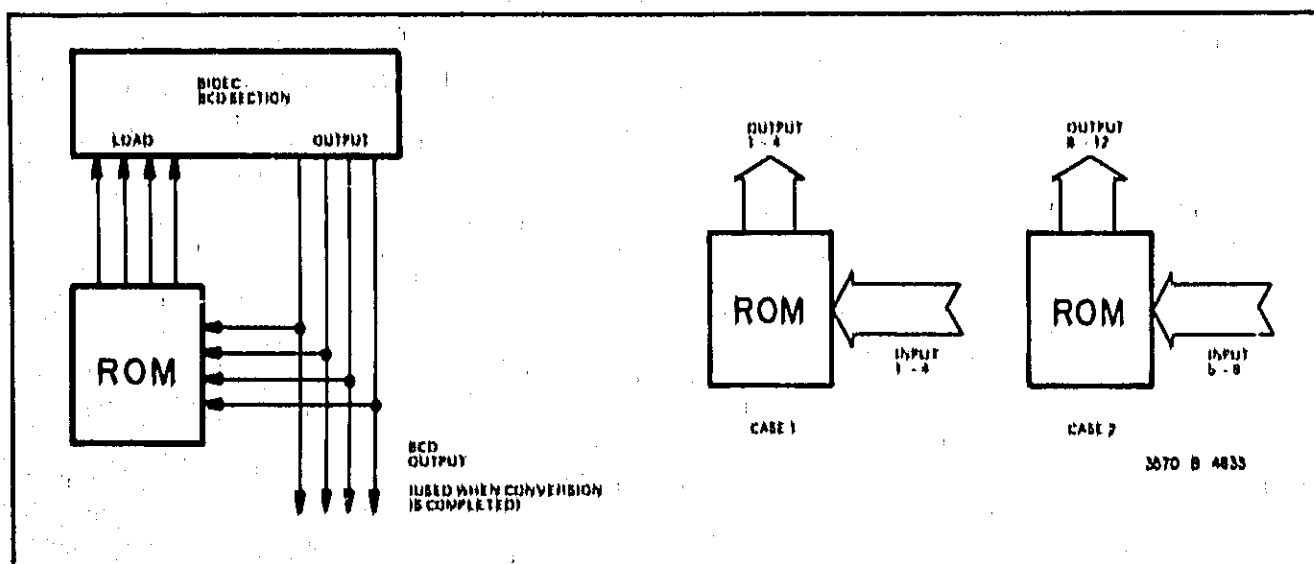

Figure 4-24, BIDEc Conversion ROM's.
b. The BIDECE Register is constructed so that the add operation can take place as bits are right shifted into the Register. The add three operation in the BIDECE Register is performed by ROM's. The four binary bits in each BCD section are always available as a ROM input address. The ROM has four outputs which are used as parallel inputs to the same BCD section of the BIDECE Register. The ROM outputs will be the same as the ROM inputs if the binary value of the inputs is four or less. If the binary value of the inputs is five or greater, the ROM output will be a binary three greater than the value of the inputs (see Figure 4-24).